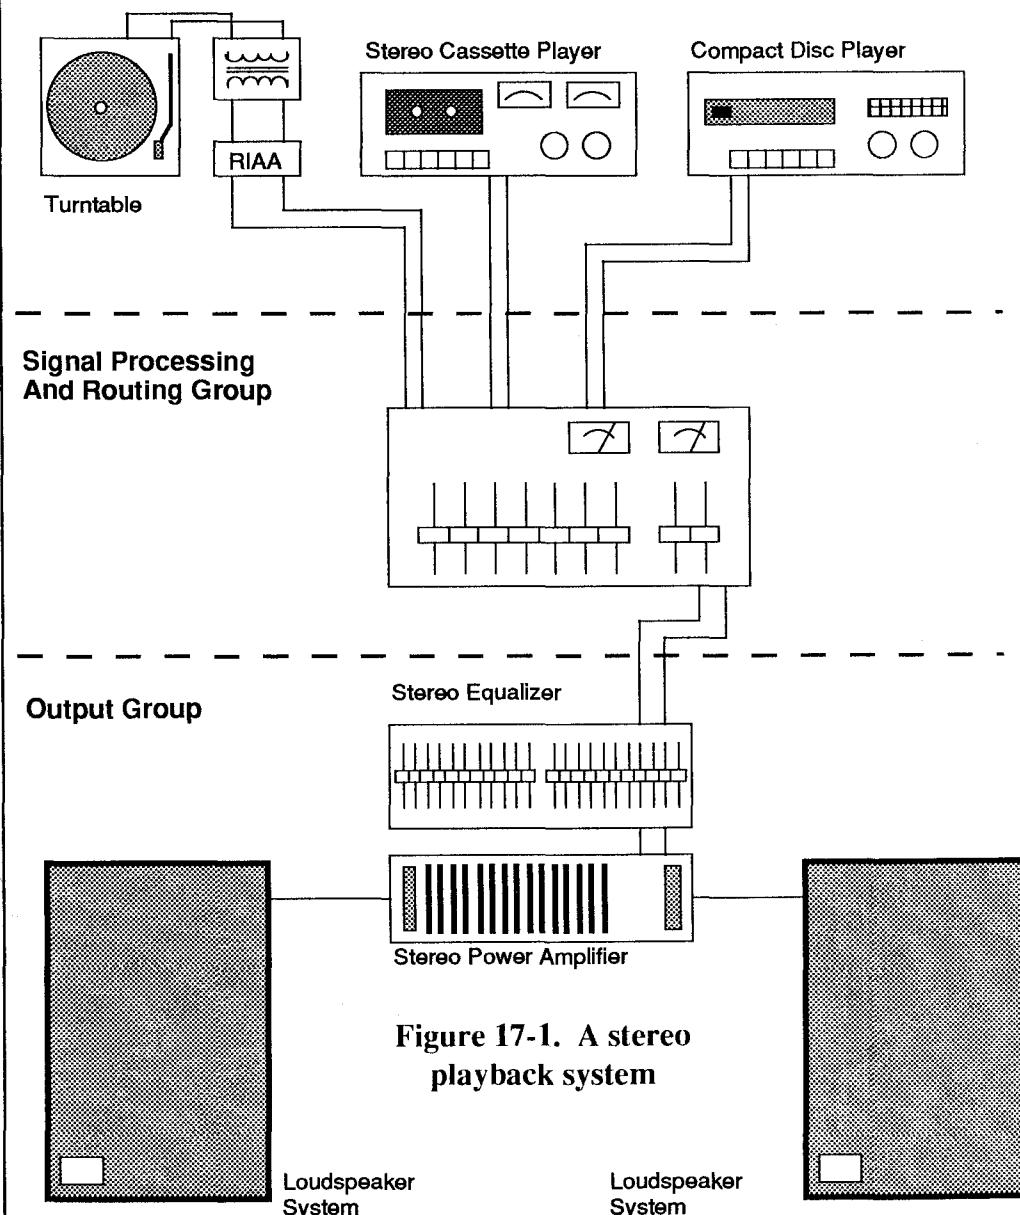

Figure 17-1. A stereo playback system
Figure 17-1 shows a simple stereo sound reproduction system. The input group consists of: (1) a turntable with moving-coil cartridge, transformer for the cartridge and RIAA preamplification stage; (2) a stereo cassette machine; and (3) a Compact disc player.